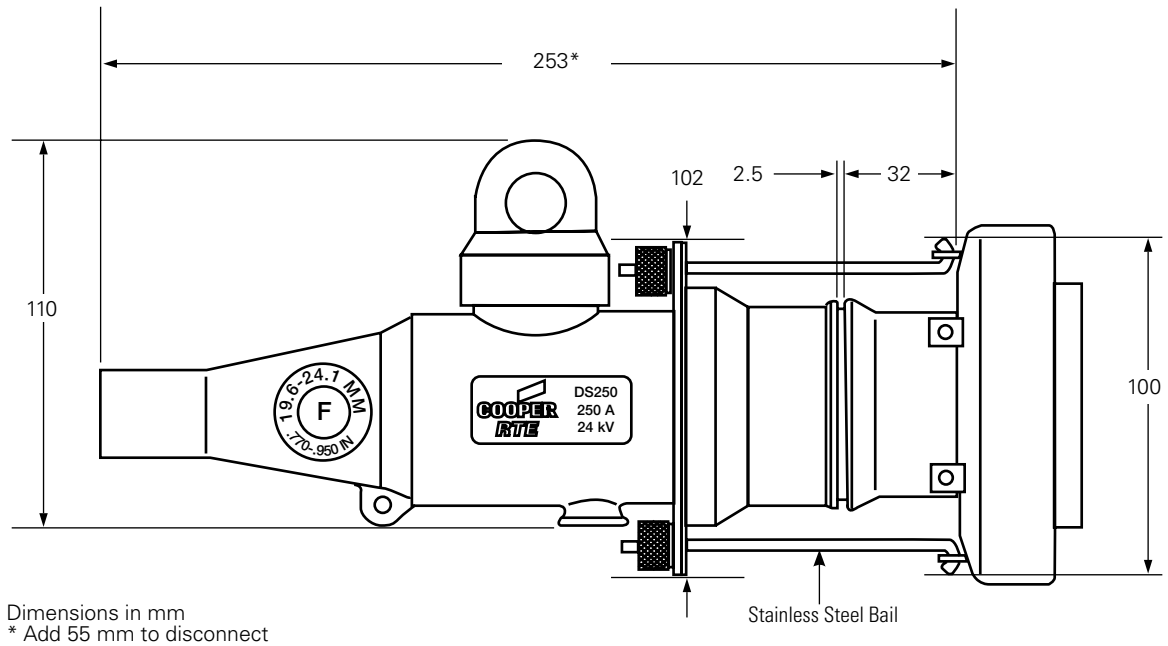

Figure 2. DS250 deadbreak connector dimensional information.
9. Stainless Steel Bail (See Figure 2)